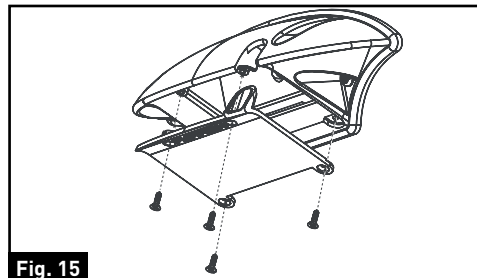

Fig. 15
7. If a doorway camera is to be installed, remove the Bracket Cover by unscrewing the four screws. (Fig. 15)